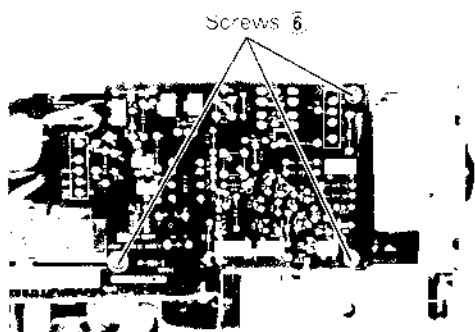

Fig. 4-12
1. Remove the three screws **6** on the printed circuit board as shown in Fig. 4-12.